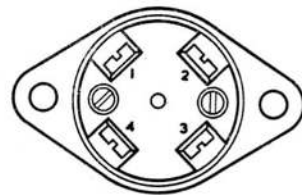
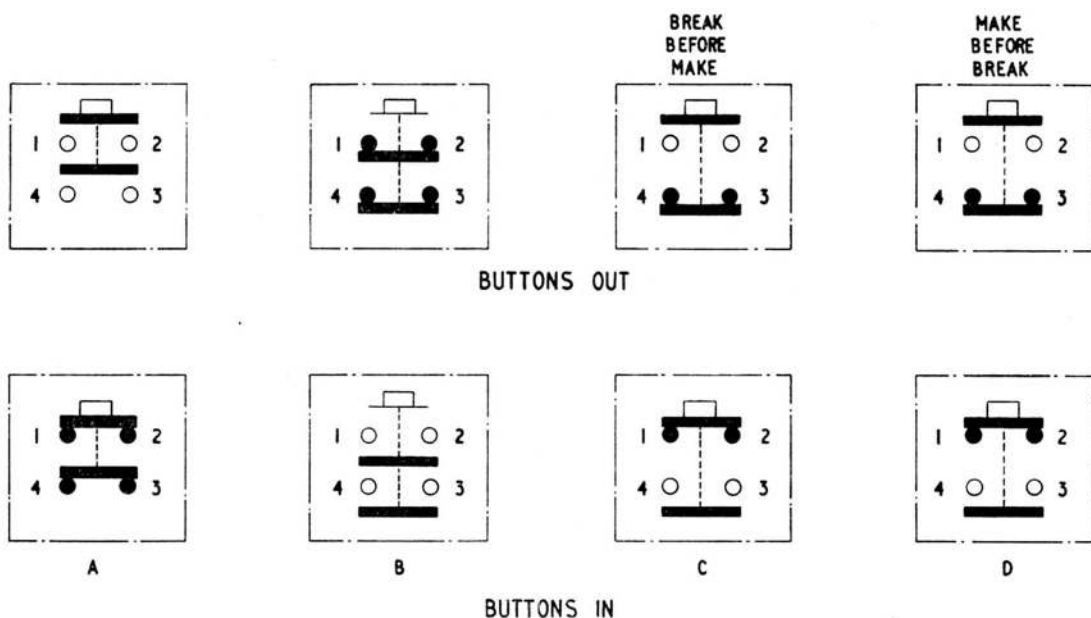

Fig. 2. Terminal arrangement
Fig. 3. Contact arrangement
4. The terminal arrangement is shown in fig. 2, with the rubber cable grommet removed, and the various contact arrangements in fig. 3. The terminal connections are by means of 6 B.A. screws.